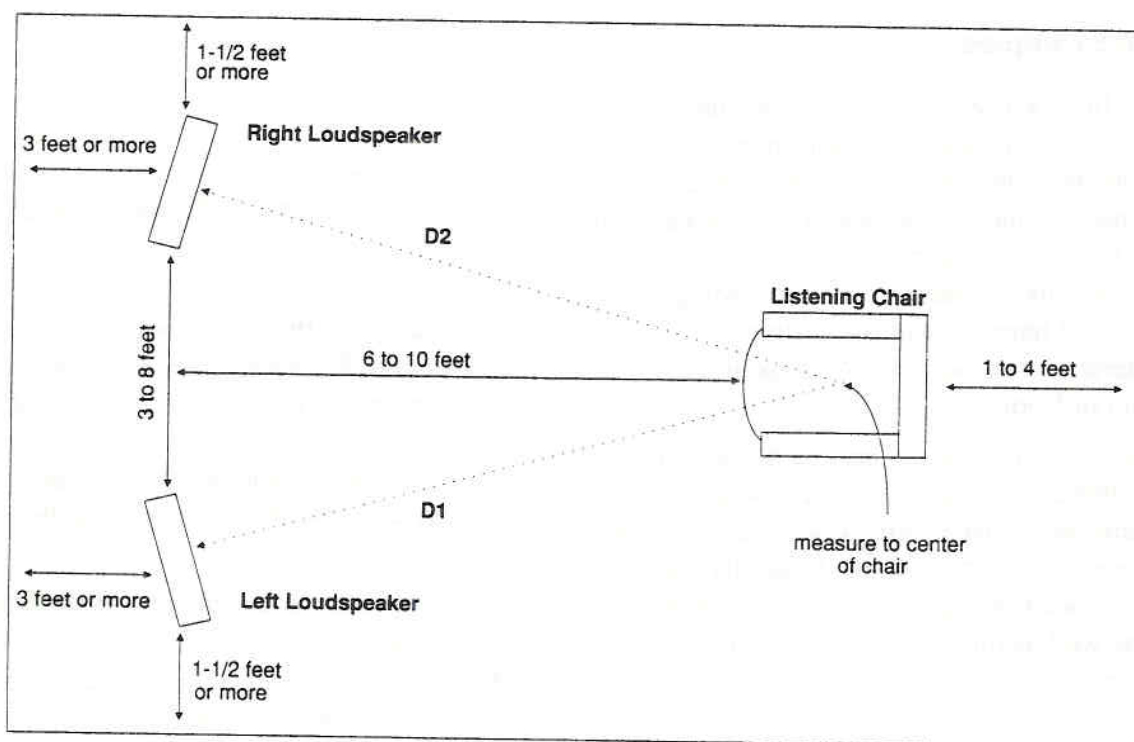

Figure 14 Basic Set-up for Sonic Holography®
To perform the set-up, you'll need a tape measure and listening chair. Refer to Figure 14 and follow this 5-step procedure:
1. Make sure the loudspeakers are away from side and rear walls as indicated in Figure 14.
5. Carefully measure the distance from the CENTER of the left speaker's top woofer to the CENTER of the listening chair. Repeat the measurement for the right speaker. Adjust the chair so that both distances (D1 and D2 in Figure 14) are exactly the same. Accuracy within 1/4 INCH is desired.